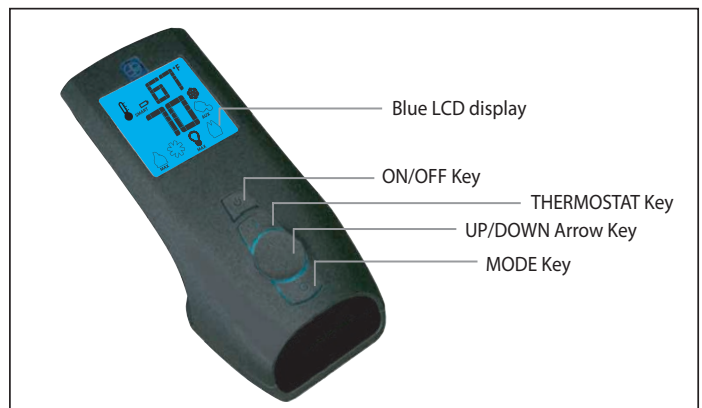
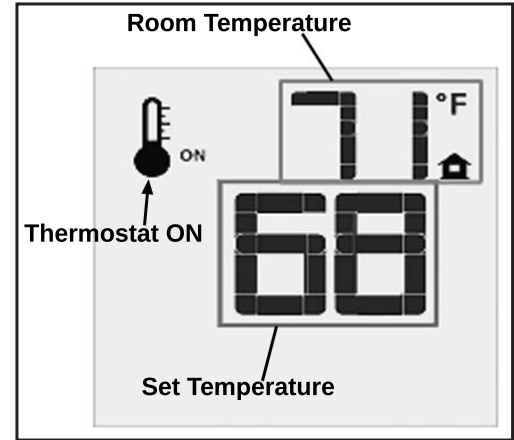
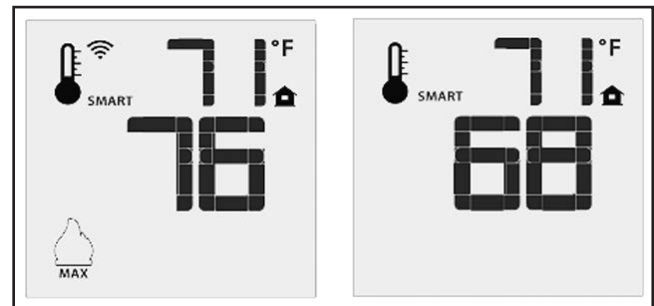
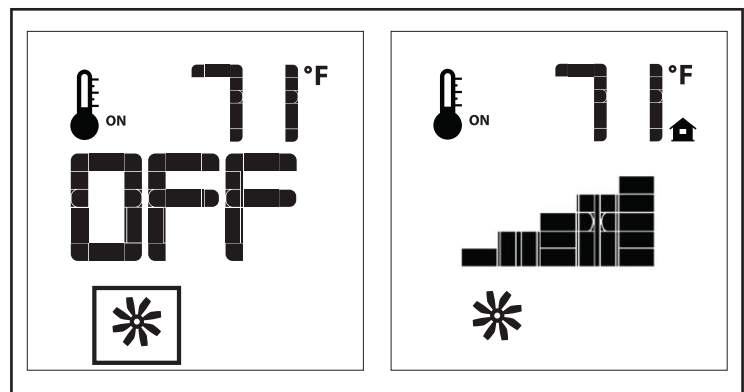

Figure 4: Proflame 2 Transmitter.
Figure 9: Remote Control Displays Set Temperature.
Figure 10: Remote Control's Smart Flame Function.
Figure 13: Fan Control
The Proflame 2 Transmitter is a black remote control with a blue backlit lcd display. It uses a streamline design with a simple button layout and informative lcd readout (Figure 5). The Transmitter is powered by three (3) AAA type batteries. A Mode Key is provided to Index between the features and a Thermostat Key is used to turn on/off or index through Thermostat functions (Figure 4 & 5)
The Remote Control can operate as a room thermostat. The thermostat can be set to a desired temperature to control the comfort level in a room. To activate this function, press the Thermostat Key (see Figure 4). The LCD display on the Transmitter will change to show that the room thermostat is “ON” and the set temperature is now displayed (see Figure 9). To adjust the set temperature, press the Up or Down Arrow Keys until the desired set temperature is displayed on the LCD screen of the Transmitter.
The Smart Thermostat function adjusts the flame height in accordance to the difference between the set point temperature and the actual room temperatures. As the room temperature gets closer to the set point the Smart Function will modulate the flame down. To activate this function, press the Thermostat Key (Figure 4) until the word “SMART” appears to the right of the temperature bulb graphic (Figure 10). To adjust the set temperature, press the Up or Down Arrow Keys until the desired set temperature is displayed on the LCD screen of the Transmitter.
The Westley comes with a convection fan that can be controlled with the Transmitter. The fan speed can be adjusted through six (6) speeds. To control the fan press the Mode key (Figure 4) to index to the fan control icon (Figure 13). Use the UP/DOWN arrow keys to turn on, off, or adjust the fan speed (Figure 13). A single beep from the IFC will confirm the command has been received